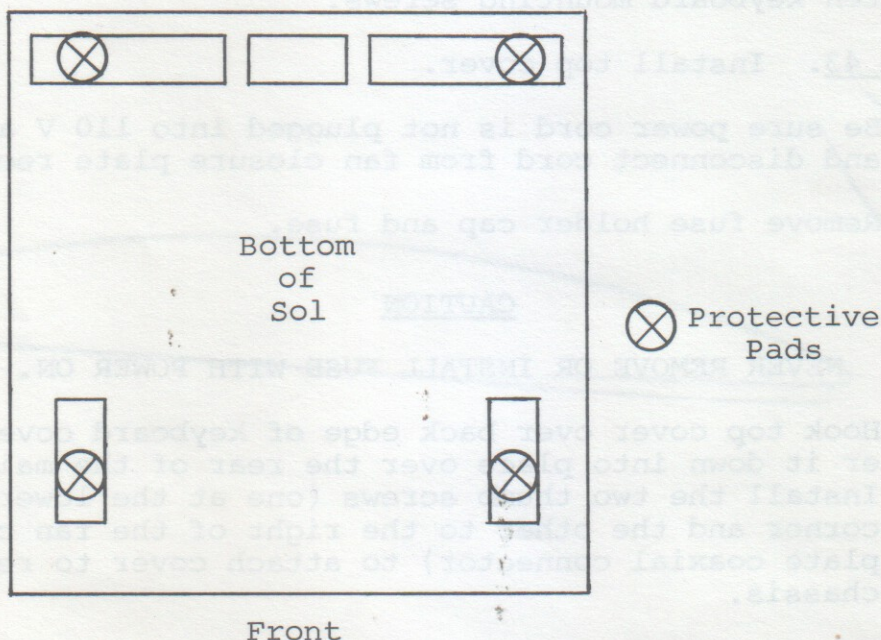

Figure 6-8. Protective foot pad installation.
- () Step 47. Affix self-stick protective pads to bottom of Sol as shown in Figure 6-8.